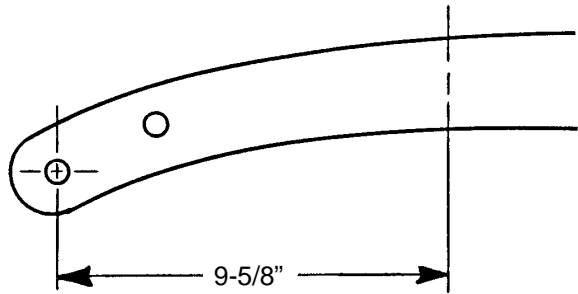

Figure 1
4. Mark the axle centerline. On the Model 'A' Ford it is located 9-5/8" back from the center of the front bumper bolt, as shown in Fig. 1. Mark this line on the top of the frame, as it is used for a couple of measurements.